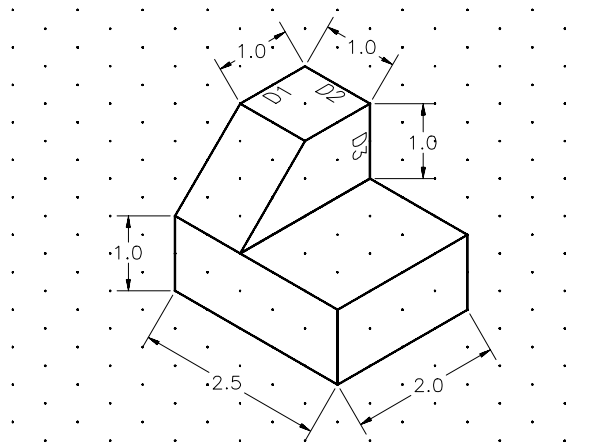

Figure 23-15 The dimensioned isometric drawing before obliquing
1. Dimension the drawing of Example 1, as shown in Figure 23-15. You can use the aligned or linear dimensions to dimension the drawing. Remember that when you select the points, you must use the **Intersection** or **Endpoint** object snap to snap the endpoints of the object you are dimensioning. AutoCAD automatically leaves a gap between the object line and the extension line, as specified by the **DIMGAP** variable.